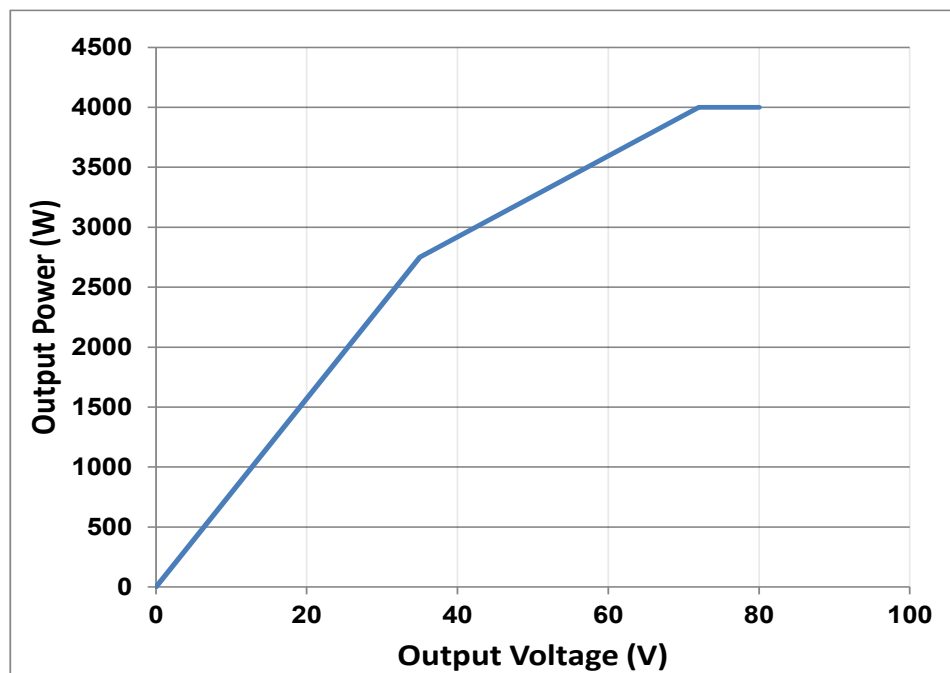

Figure 5: Vout derating. 72V model Available Output power vs Output voltage
*Power Derating vs. Vrms_{L-L} (see Figure 5)